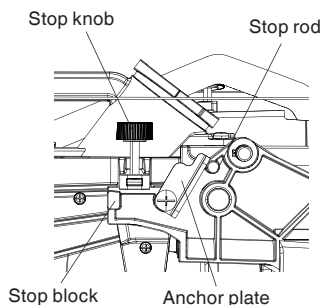

Fig. 19-a
- (1) Setting the maximum width travel of the cutting head, follow the below steps: (Fig. 19-a)